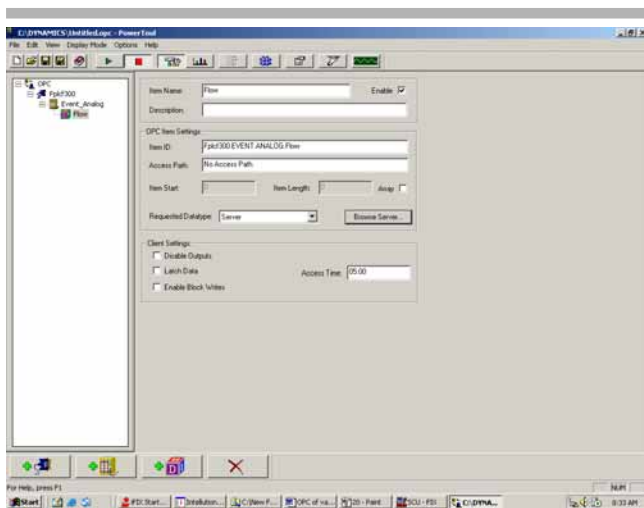

Fig 5.
- 2.9 Navigate to find the desired item, click **OK**. The item will now appear in the Item ID (Fig 5).